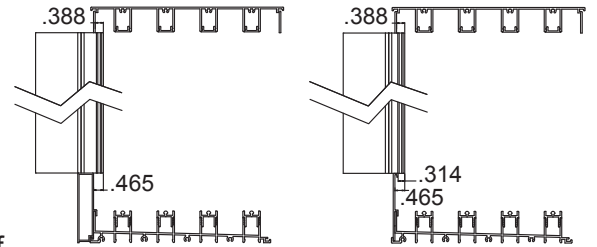

Figure 16
12. If a panel is not available to set the location of the p-hook from inside to outside then align the p-hook with the riser and header as shown. (See Figure 16)